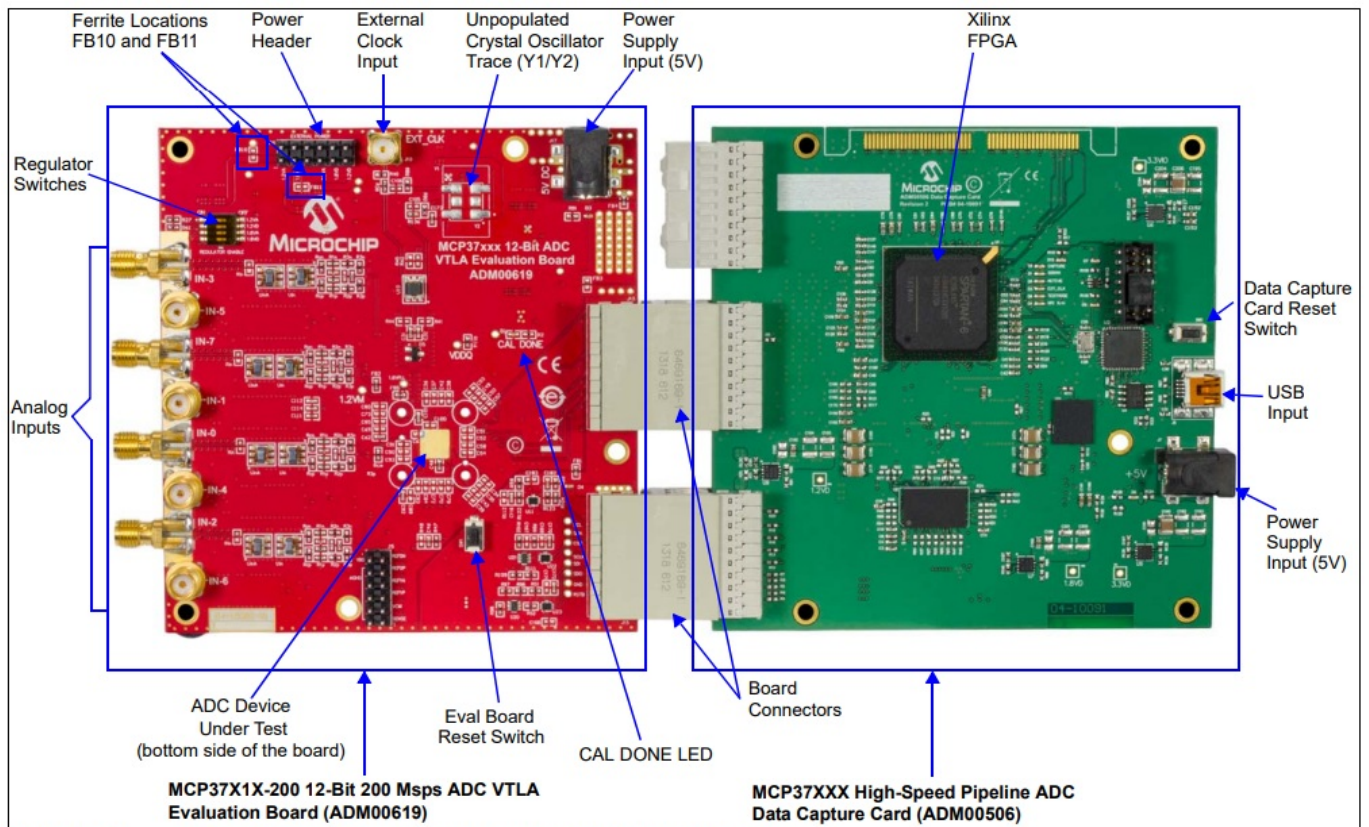

FIGURE 2-1: Evaluation Kit - The evaluation board connected to the data capture card.
This evaluation kit comes with two switching power supplies (Mean Well: GS06U-1P1J): one for each of the boards. These power supplies can provide a 5V, 1A maximum output. They can be connected to an AC wall outlet rated between 90V AC and 264V AC, at a frequency of 47 Hz to 63 Hz. The other end of the power supply is a 2.1 mm barrel plug that connects to both the evaluation board and the data capture card (see Figure 2-1). If the user chooses to connect a different external power supply, a minimum output of 750 mA is required.
1. Connect the evaluation board and the data capture card as shown in Figure 2-1.
- Microchip's ADM00725 or ADM00791 evaluation boards may be connected to the external clock SMA input (See Figure 2-1). These boards were developed as an optimized clock source for Microchip's High-Speed ADCs. For more information, refer to the board web page.